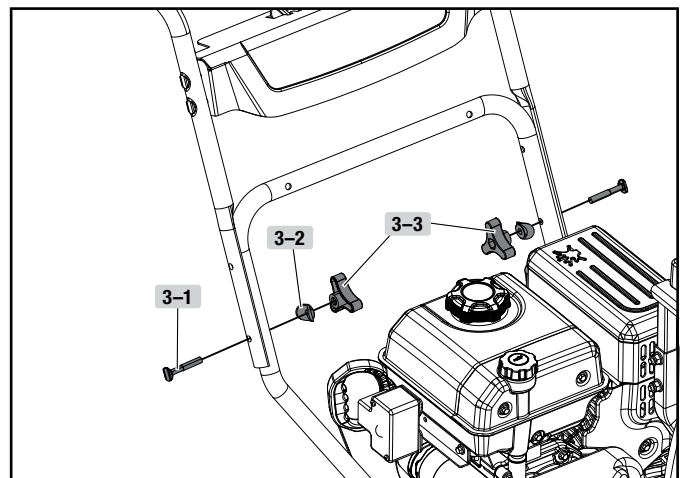

Figure 3
1. Connect the upper handle and lower handle with 2 bolts (3-1), 2 washers (3-2) and 2 locking knobs (3-3) only on the bottom — keep them loose so you can fold the handle down in the next step (Fig. 3).